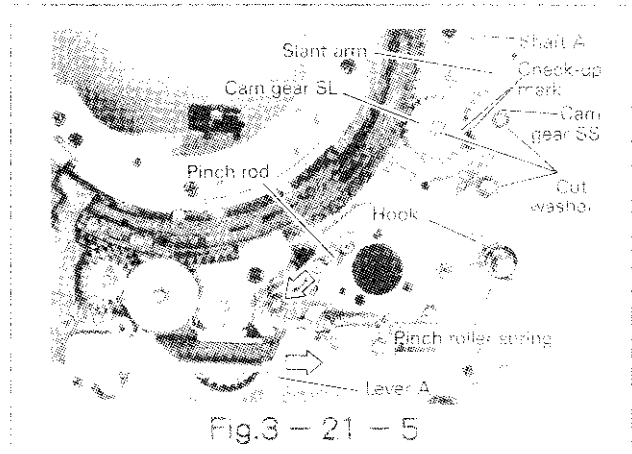
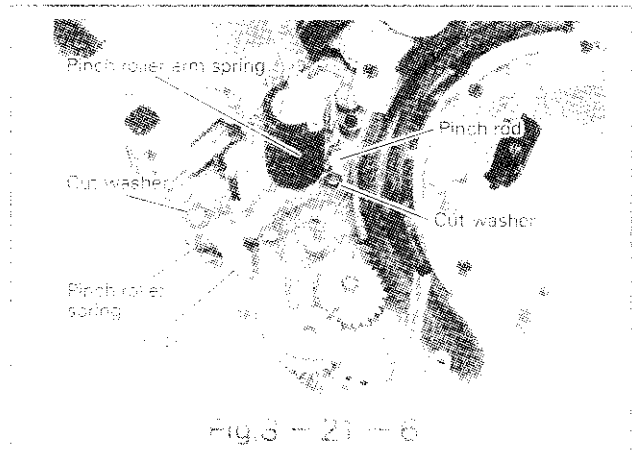

Fig.3-21-5
Fig.3-21-6
- (1) Attach the cam gear SL and SS to the main plate so that the check-up marks are fitted respectively, then fix with the cut washer. (See Fig. 3-21-5).
- (1) Slide the lever A and the pinch roller in arrow direction. (See Fig. 3-21-5).
- (2) Attach the pinch roller spring so that one end (shorter one) is hooked onto the main plate.
- (3) Attach the pinch roller arm assembly to the main plate so that the other end (longer one) of the pinch roller spring is hooked by the pinch roller arm assembly, then fix with the cut washer. (See Fig. 3-21-6).
- (4) Attach the pinch rod to the pinch roller arm assembly, and fix with the cut washer.